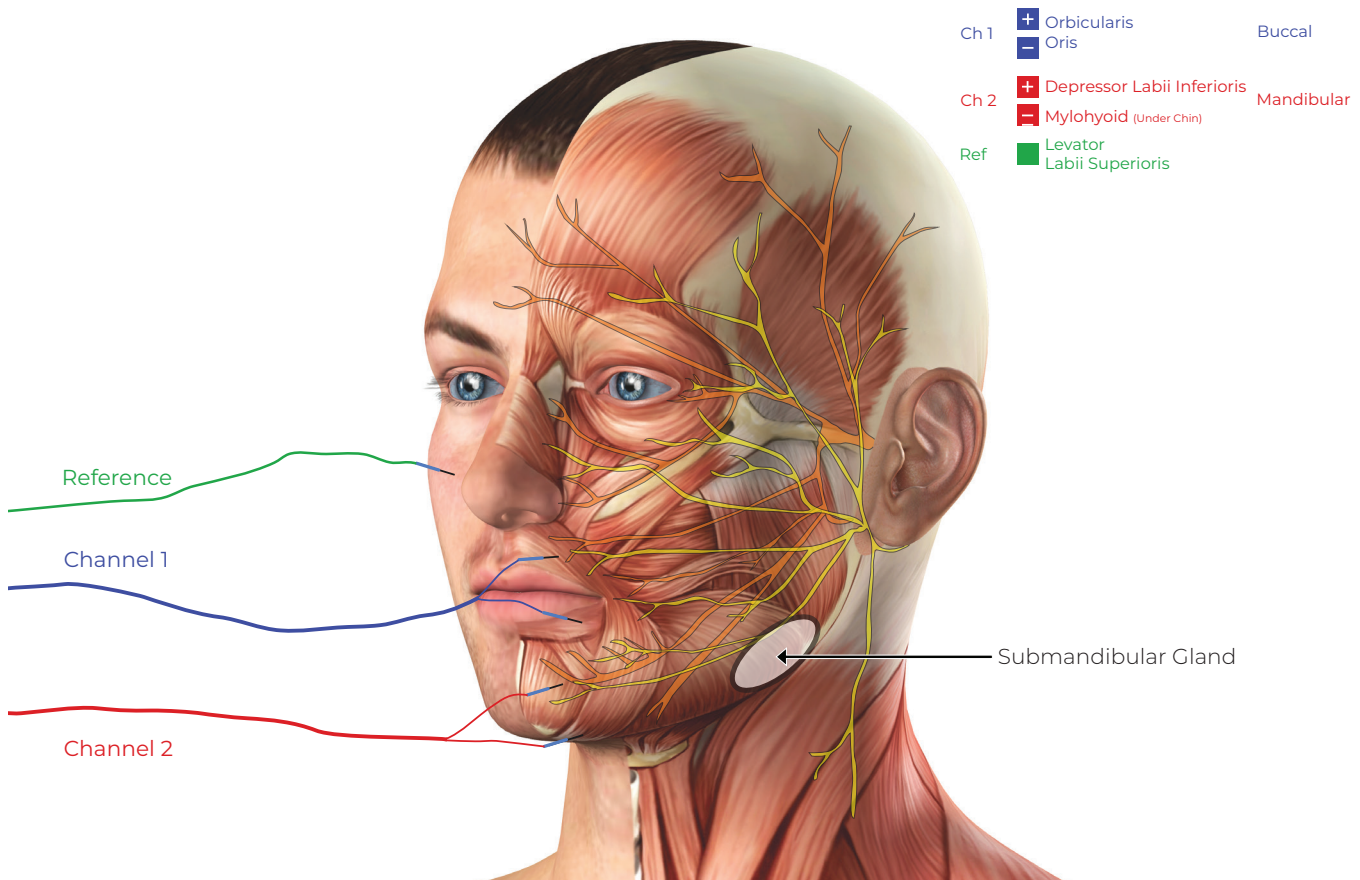

Figure 7.1: Suggested electrode placement during surgery of the submandibular gland.
2. Insert each pair of Subdermal Needle Electrodes into the appropriate muscles indicated in Figure 7.1 (page 13), with the wires leading away from the surgical site. Ensure that the needles of each electrode are inserted adequately into the muscle and not simply under the skin.